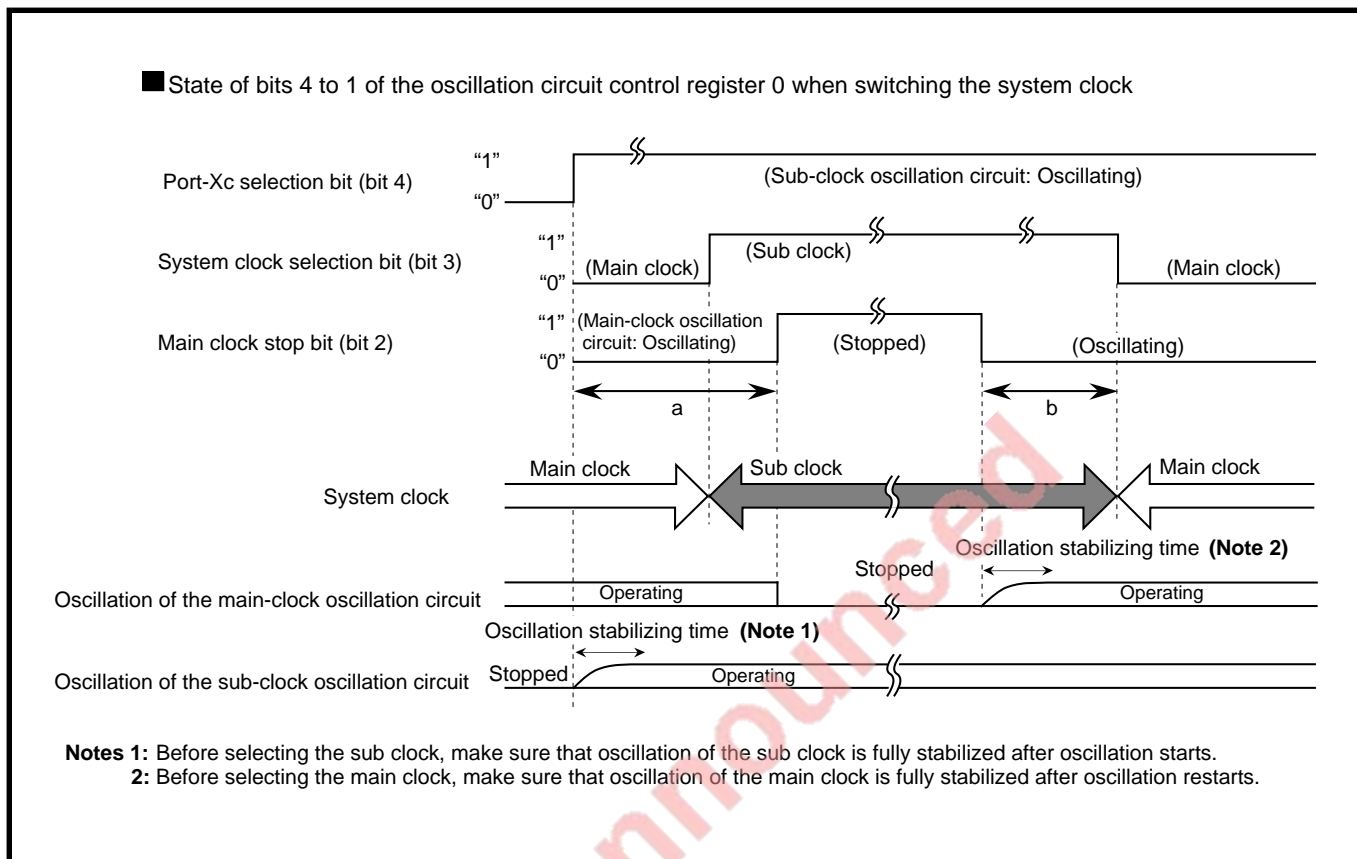

Fig. 14.3.6 System clock switching procedure (1)
After the sub clock is selected as the system clock, the main-clock supply is stopped/restarted by the main clock stop bit (bits 2 at address 6C16). (Refer to **Figures 14.3.6 and 14.3.7.**)
Furthermore, a sub clock can be the system clock by specifying the system clock selection bit after the oscillation is stabilized. (Refer to **Figure 14.3.6**.)
Figures 14.3.6 to 14.3.8 show the system clock switching procedure.
- System clock switching procedure in order to stop the main clock supply when oscillator connected to the sub-clock oscillation circuit stops operating. (Refer to “a” in Figure 14.3.6.)
- System clock switching procedure in order to select the main clock as the system clock when the main clock supply stops. (Refer to “b” in Figure 14.3.6.)